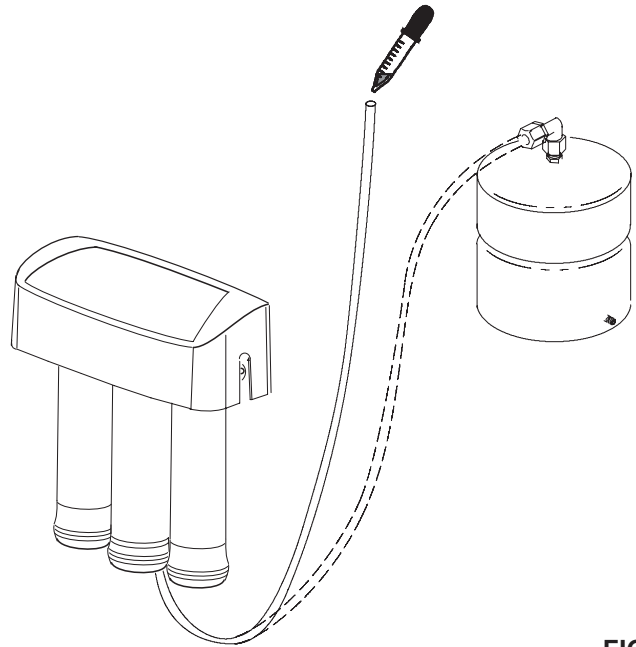

FIG. 23
Complete the following steps to sanitize the system. See Fig. 23.
4. Add 3 ml. of bleach into open end of yellow tank tubing. Handle bleach according to bleach manufacturer's recommendations. See Fig. 23.